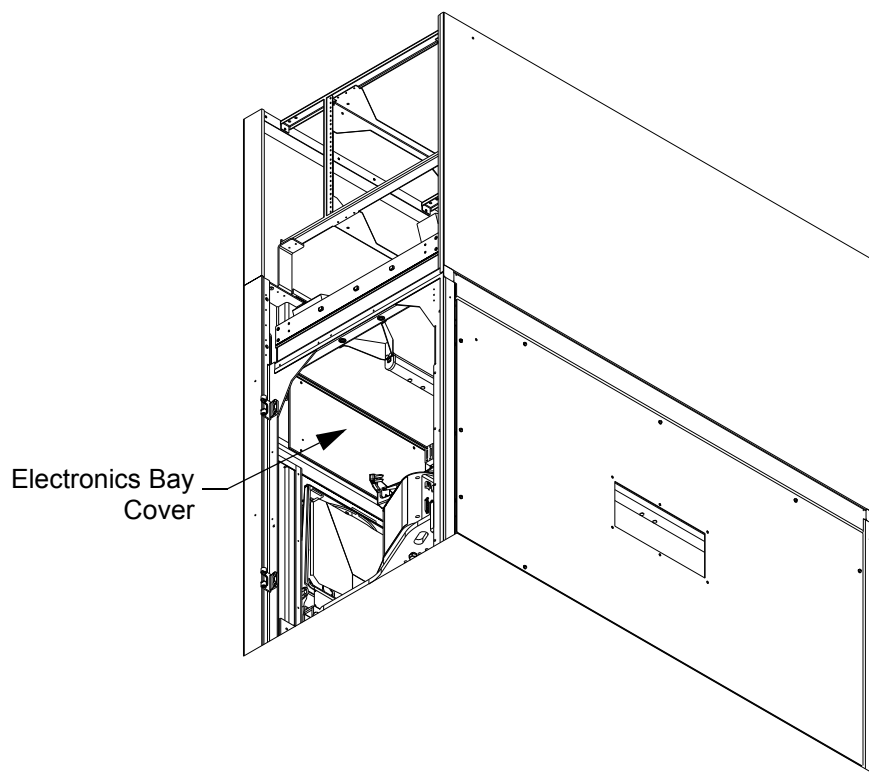

Figure 8-4: Remove Electronics Bay Covers
10. Remove the sheet metal covers over the front Electronics Bay. See Figure 8-4.